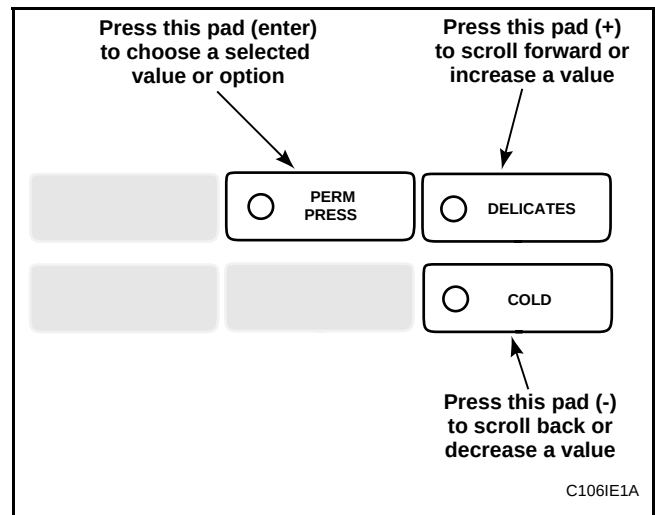

Figure 33
5. Press the DELICATES (+) or the COLD (–) keypad to increase or decrease the current number of coins displayed in the VFD to the desired number of coins. See **Figure 33**.